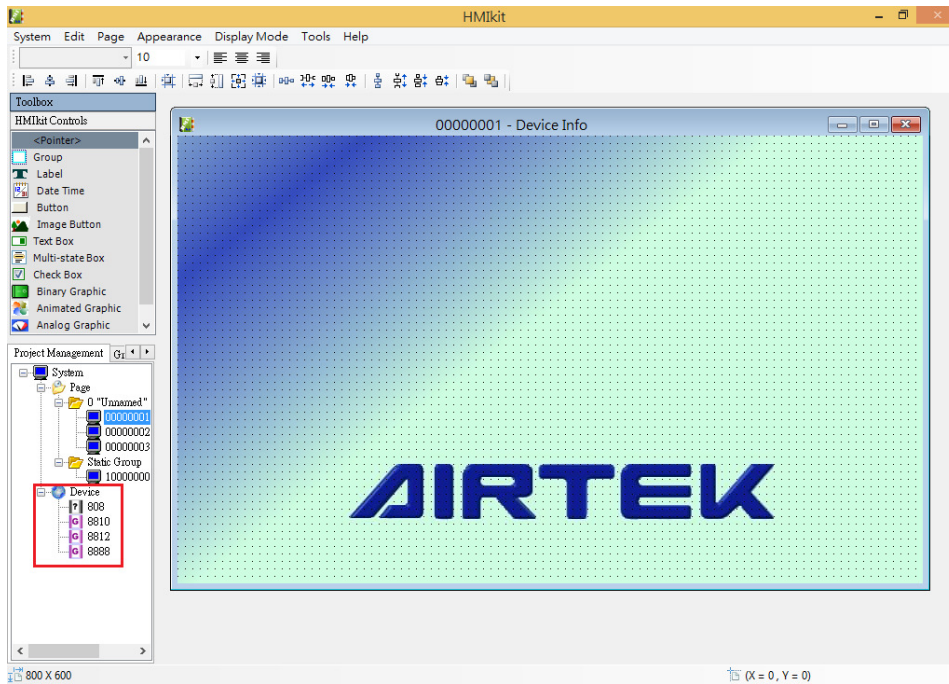

Figure 3-1 List of selected device to manage (Red box)
1. In the menu bar click on the "design mode" option, you can enter the graphical control picture design mode. The lower left of the design screen position, show the list of devices in this project, as shown in Figure 3-1. Devices registered in the device list are devices that can be selected in the project design. The devices that are actually present in the system must be registered in the device list and can be selected during the design process.